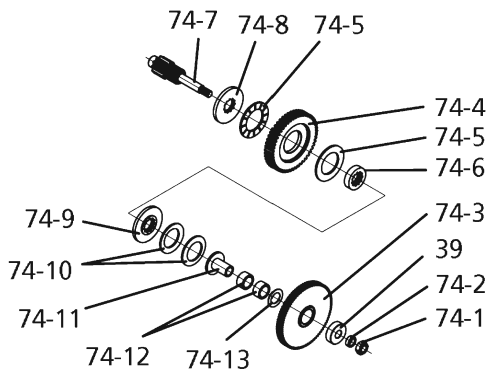

Figure 6 — Overload Limit Clutch Assembly
4. Tighten the Hex lock nut, by turning clockwise. (Fig 6. Ref. No 74-1) components, and hoist failure.